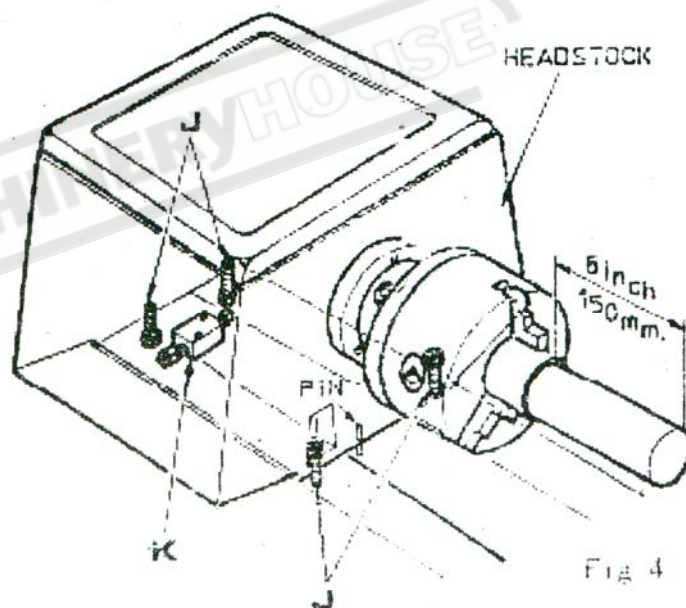

Fig.4
Headstock check: take a light cut-with a keen tool over a 5 In.(150mm) length of 2 In.dia.(50mm).steel bar gripped in the chuck but not supported at the free end. Micrometer reading at each end of the turned length (at A and B of Fig.4) should be the same.
To correct a difference in readings, slacken and release the four-headstock hold-down screws (J) shown in Fig.4 and adjust the set-over screw (K) beneath the headstock. Then tighten all screws, after adjustment and repeat the test-cut/micrometer-reading sequence until micrometer reading are identical, so machine now cutting absolutely parallel.